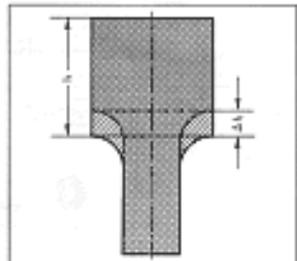

Figure 52: Reduction of the resonant frequency of a stepped sonotrode (stepped cylinder) by shortening length  $l_1$ .
For measuring, the sonotrode is placed as shown in Figure 52 on the measuring instrument or in the case of other types of instrument screwed to the measuring transducer, which is connected to the RC generator. The probe (vibration receiver) coupled with the tuning instrument touches the top of the sonotrode. The frequency range in which the sonotrode is assumed to lie must be gone through on the RC generator. The resonant frequency has been obtained when the maximum amplitude reading is observed on the tuning instrument or when the indicator reading of the instrument is observed on the compact instrument.
- Stepped shape (Figure 52) - shortening of length  $l_1$